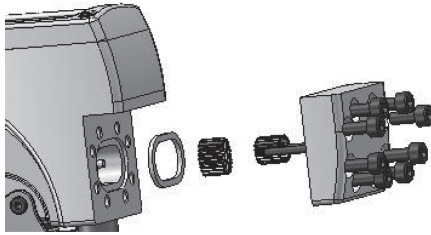

Figure 4
F.4.2 Use a wrench to rotate out of the hexagon screws from the valve body, see Figure 4;